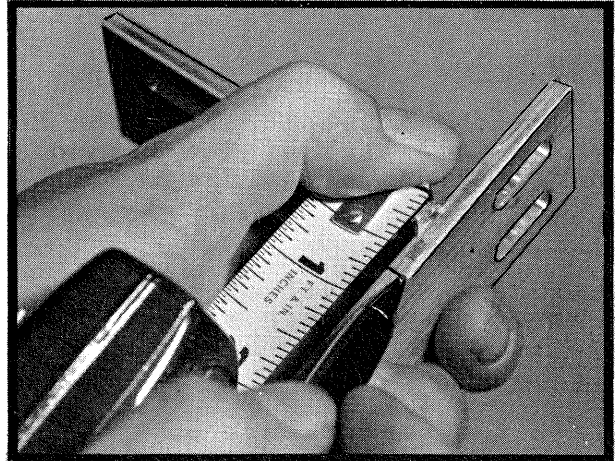

FIGURE 5-5 Measure and mark the brackets as shown above.
B. Refer to FIGURE 5-5. Measure 5/8" along the side of the bracket and mark it as shown in the Figure. Measure and mark the other side of the bracket in the same manner. Repeat this procedure on the other bracket. These marks will be used to align the bracket with the Solenoid Centerline when the brackets are installed later in this Section.